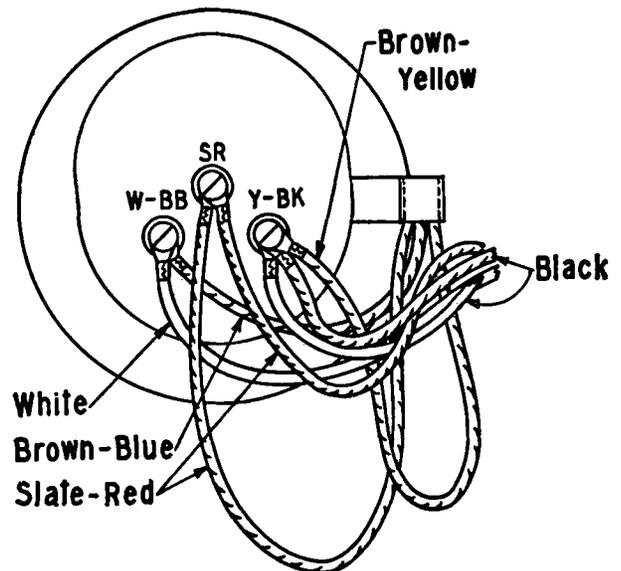

Fig. 1 — 94A Apparatus Blank
1.06 This section is reissued to include information for sets equipped with the 6 type dial, to improve the form of presenting the cording information and to make changes of a minor nature in Figs. 1, 2, 4, and 6.
Note 1: Fig. 1 shows the cording of the apparatus blank of 354A sets. The other manual sets, 356A and 357A, have similar cording except for variations in the number and color of the conductors terminating at the apparatus blank of these sets.